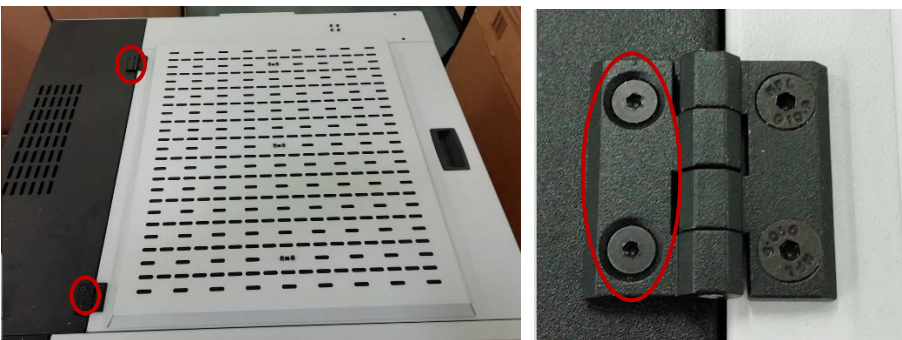

Fig. 21 Tightening the DIN7991-M5x12 screws fixing the top cover to the printer
14. Tighten the 4 DIN7991-M5x12 screws fixing the top cover to the printer, use threadlocker (Fig. 21).